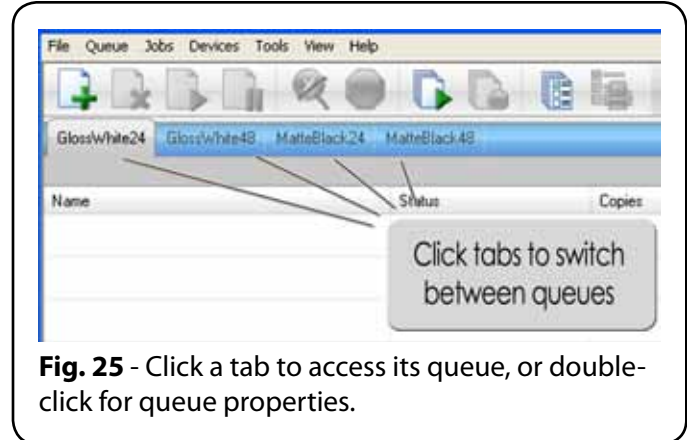

Fig. 25 - Click a tab to access its queue, or double-click for queue properties.
- **At-a-Glance Queue Switching** – Each queue is organized as a tab for convenient switching (Fig. 25). Merely click to see the jobs that have been accumulated, or double-click to check the properties of the given queue.